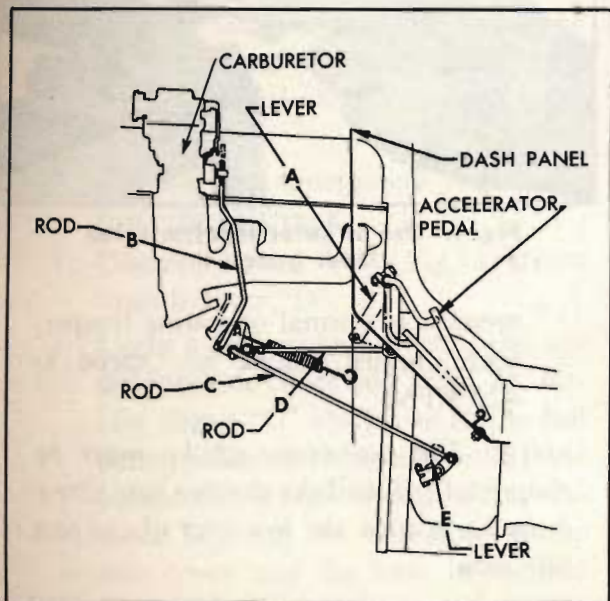

Fig. 1. Adjusting throttle linkage six cylinder
2. Disconnect rod "C" from the throttle lever "E" (Fig. 1).